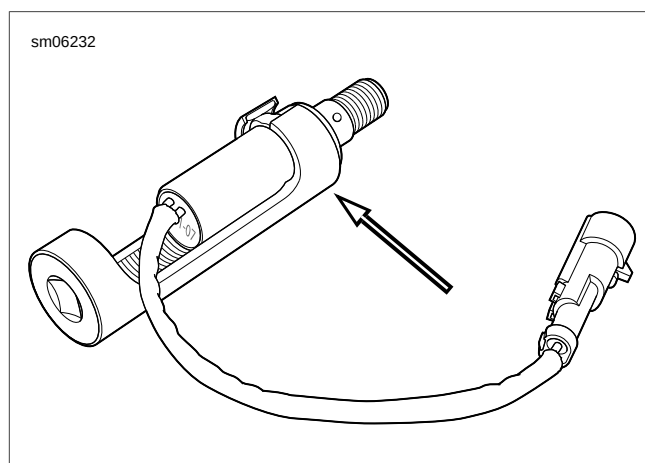

Figure 7-74. ACR Solenoid Socket and ACR
3. See Figure 7-74. Use ACR SOLENOID SOCKET (Part No. HD-48498-A) to remove the ACR from the cylinder head.
5. See Figure 7-74. Using ACR SOLENOID SOCKET (Part No. HD-48498-A), tighten to 132-180 in-lbs (14.9-20.3 Nm).